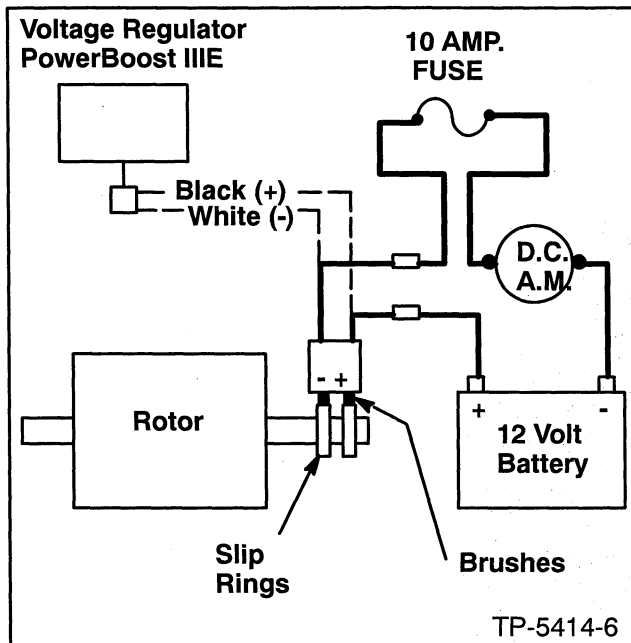

Figure 7-2. Separate Excitation Connections (PowerBoost III).
2. Connect an ammeter and a 12-volt automotive battery to the positive (+) and negative (-) brush leads. Include a 10-amp. fuse to protect the circuit in case of a shorted rotor. Refer to Figure 7-2. Note and record the ammeter reading.